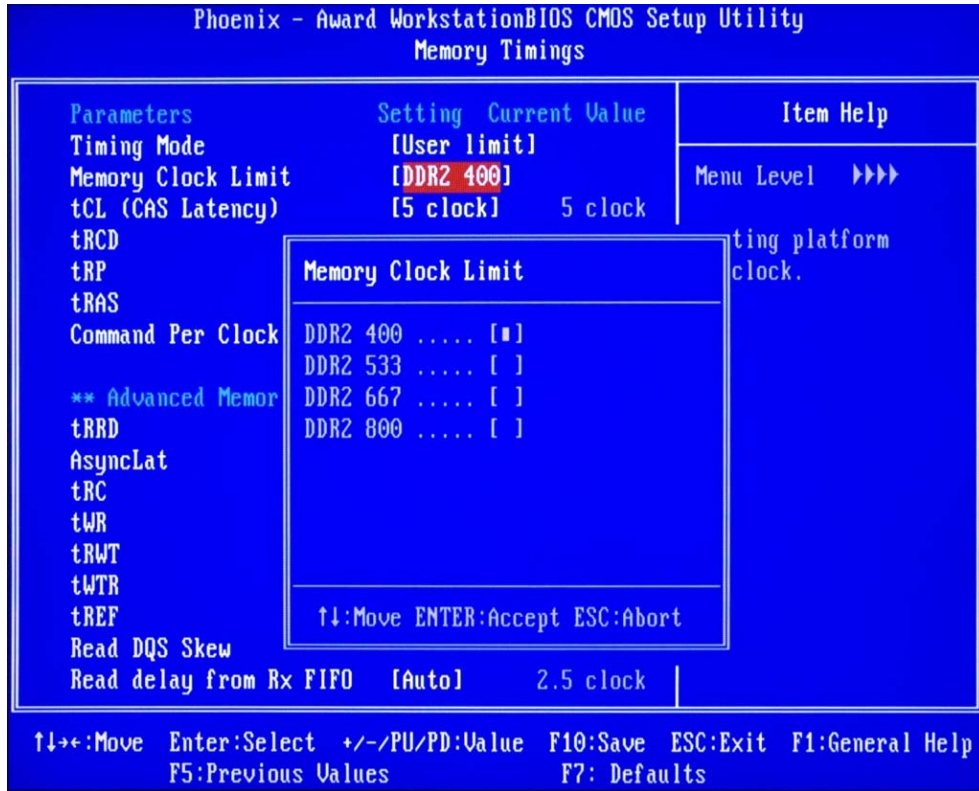

Figure 4. Memory Settings for CPU Reference Clock Overclocking
Set memory frequency as low as possible from the **Memory Timings** BIOS menu, as shown in Figure 4:
**Note:** In the **Memory Timings** BIOS menu, make sure **Memory Clock Limit** is set to **[DDR2 400]** as shown in Figure 4.
2. Set memory frequency as low as possible from the **Memory Timings** BIOS menu so they have exactly the same values as shown in Figure 4.